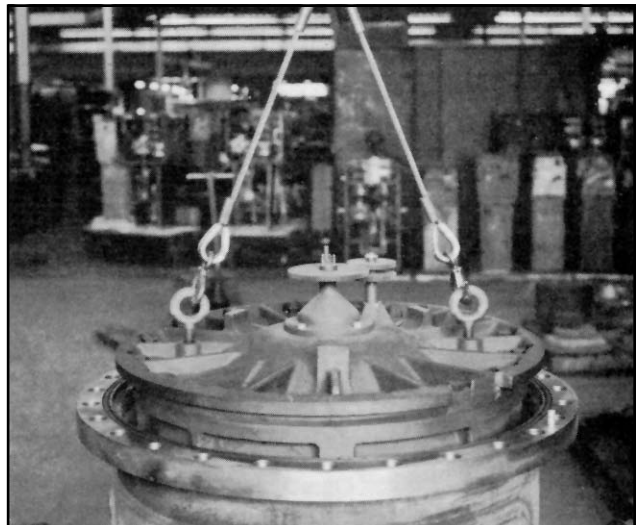

Figure 8
8. Remove the locking bolts from the outer housing. Lift inner unit from housing, Figure 8, and set on level floor.